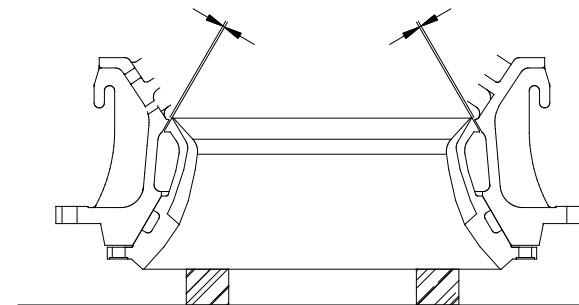

Fig. 6.3.5
4. Measure the clearance between top frame and concave and tighten the bolt so that the clearance is even throughout the entire periphery. Tighten the side with smallest clearance first. (Fig. 6.3.5).